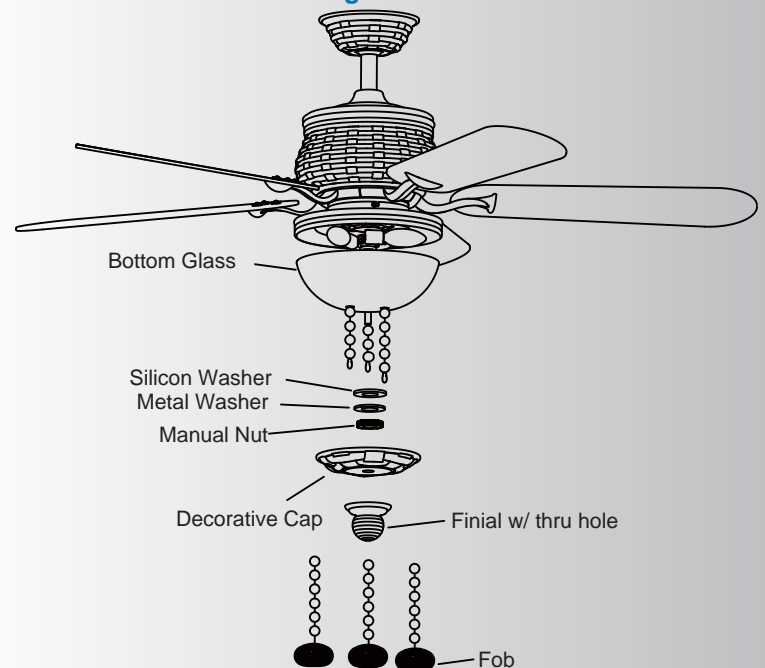

Fig. 22
Step 7. Feed the three (3) pull chains from light kit through the holes in the center of glass shade. Now secure the glass shade to the fixture by fitting it up securely to the light kit. Secure the glass shade with the washer (rubber against the glass), metal washer and manual nut. (Fig. 22)
Step 9. Attach each of the three (3) decorative fobs to the pull chains. (Fig. 22)